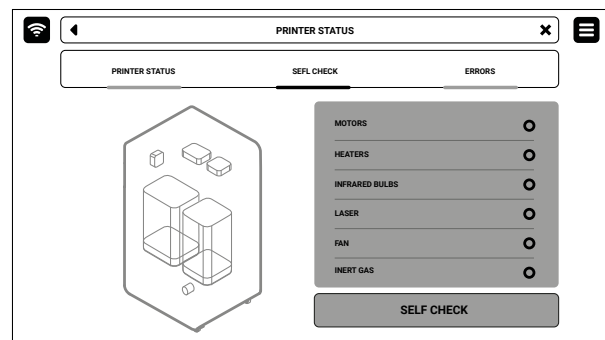

Fig. 12.3 **SELF CHECK** screen
- SELF CHECK** tab, in which it is possible to check that all components in the printer are working correctly (motors, laser, heaters, etc. Fig. 12.3).